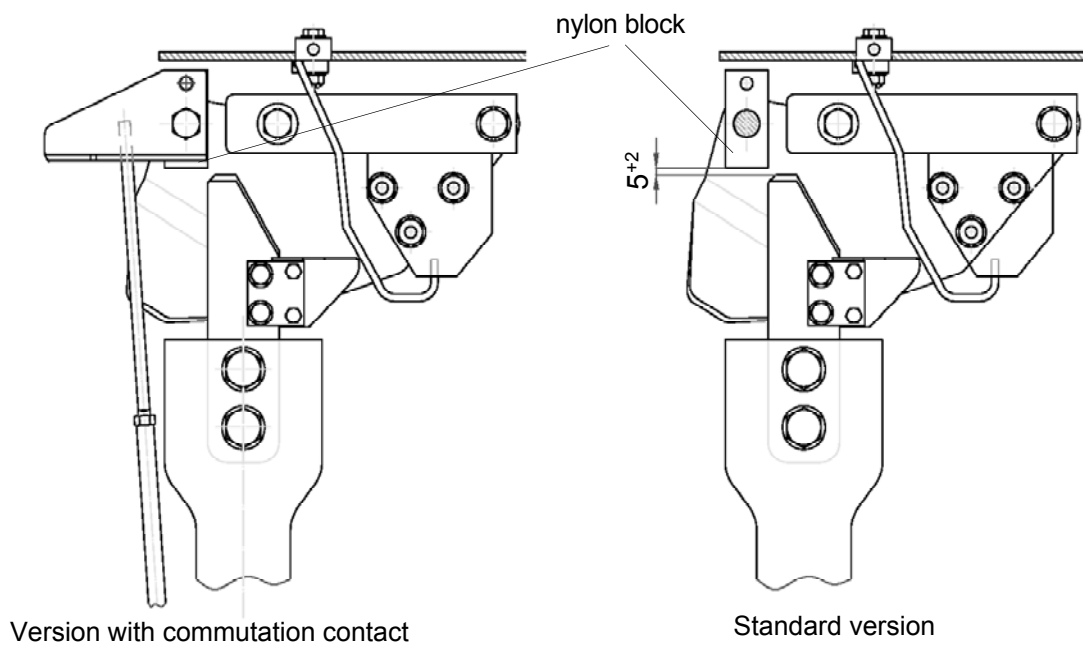
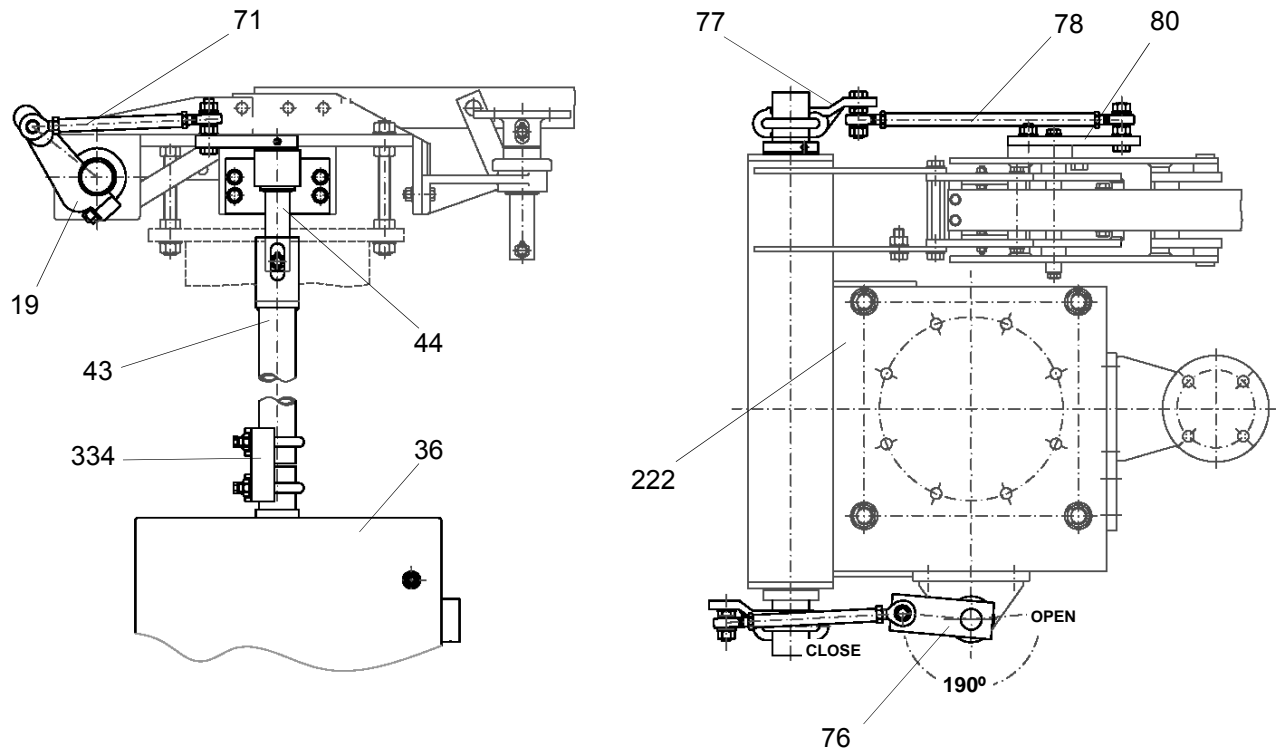

Figure 16 Regulation of earthing switch blade in close position
Figure 18 Installation of operating mechanism for earthing switch
Caution: When the guide is hooked in the bracket (item 4, Figure 16) release the blade by opening the bracket manually.
- 7.6.6 Mount the operating mechanism of earthing switch. Mechanism have to be in "CLOSE" position. Adjust position of operating lever (76) in position "CLOSE". Length of operating rod (71) and position of lever (19) are adjusted at factory.(Figure 18)
- 7.6.7 Check length of operating shaft (43) and if necessary shorten it. The cutting place protect with zink paint. Connect mechanism with operating shaft (43). (Figure 18)
- 7.6.8 Connect the levers (80) and (77) witch rod (78). Position of lever (77) is determined by length of rod. (Earthing switch is still COLOSED) (Figure 18)
- 7.6.10 Open the earthing switch manually. The vertical movement of the blade is guided by the nylon block in the earth receive contact (Figure 16). During the vertical movement the roller may just touch the guide plate, a gap up to 1 mm is allowed. (Figure 18) If necessary re-adjust the guide plates according to item 7.6.9 to 7.6.12.
- 7.7.7 Put the disconnecter in "CLOSED" and the earthing switch in "OPEN" position. Using screws 151, align the interlocking sleeves as shown in Figure 18. The earthing-switch end of the interlocking rod 383 must be inside the notch provided in the interlocking sleeve of the earthing switch.